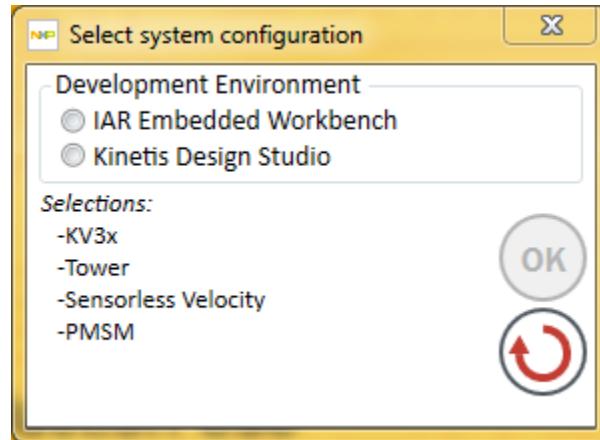

Figure 19. Select development environment
5. Select the development environment (IDE) that will be used to create the application code (Figure 19)